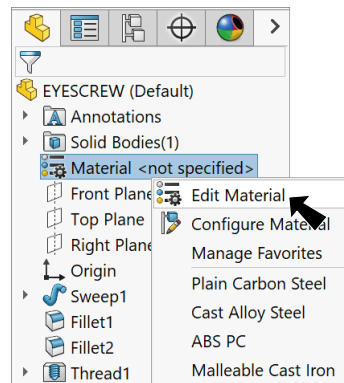

Fig. 15
Step 1. Right click **Material**  in the Feature Manager and click **Edit Material**, **Fig. 15**.